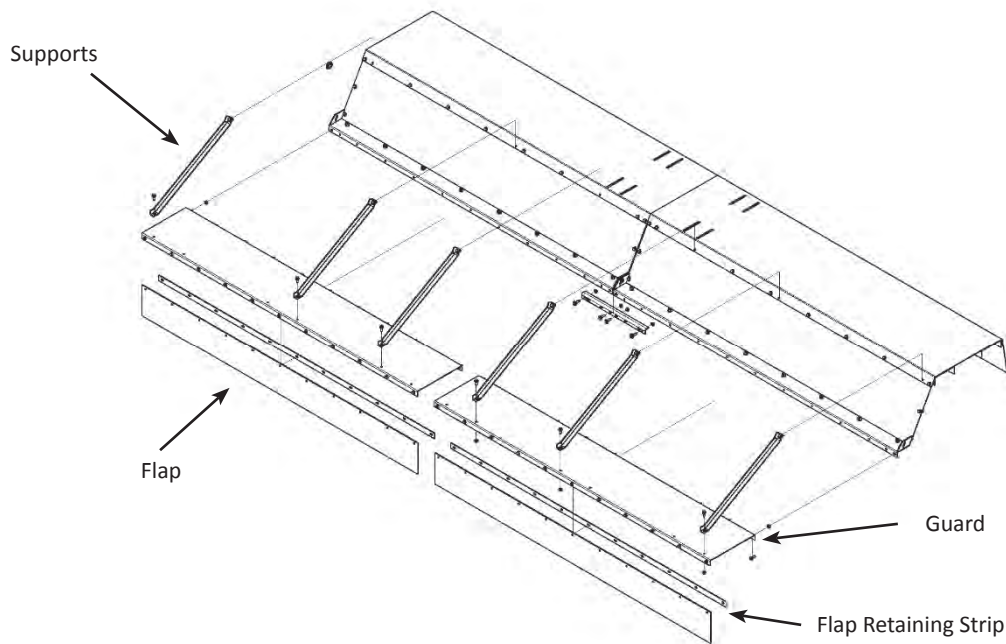

Figure 6: Stone Guard Components
1. Assemble the stone guard flaps and retaining strips to the stone guards as shown in Figure 6. Use 3/8" – 16 x 1" (Grade 5) hex washer head cap screws and whiz locknuts.